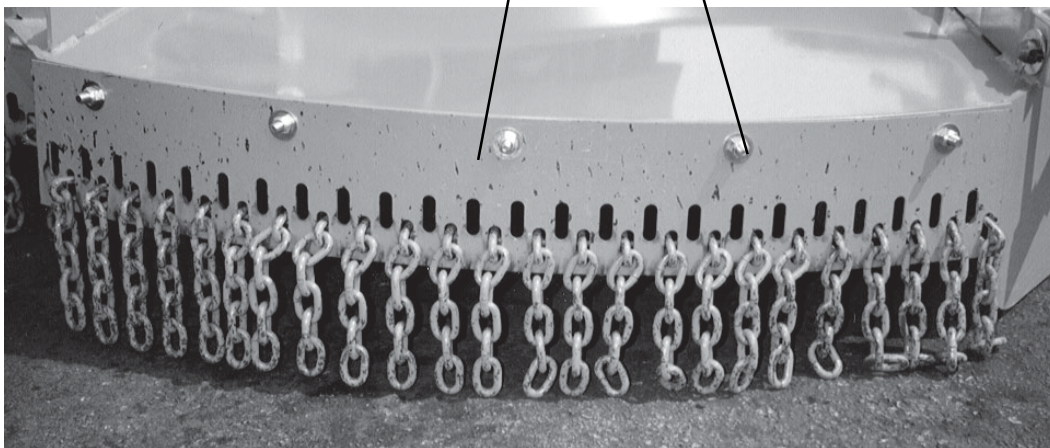

FIGURE 24
Attach Rear Wing Chainguard (1) to rear wing deck using 7/16" x 1-1/2" Bolts (2), Flatwashers (3), and Nuts (4) as shown in **Figure 24**.